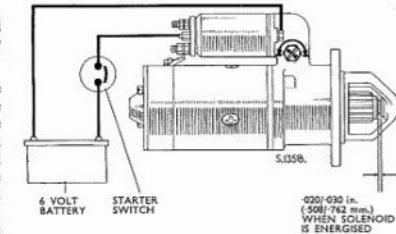

Fig. N.30. Setting the pinion movement limit (M45G type starter motor)
unit by way of a switch to a 6 volt battery (see Fig. N.30). Connect the other terminal of the battery to one of the solenoid fixing bolts and then close the switch (this throws the drive assembly forward into the engaged position). With the drive assembly in this position measure the distance between the pinion and the washer on the armature shaft extension. Make this measurement with the pinion
- (b) Ensure that the eccentric pivot pin securing nut is slack and turn the pin until the correct setting is obtained. It will be noted that the arc of adjustment is 180° and the head of the arrow marked on the pivot pin (see Fig. N.30) should be set only between the arrow heads on the drive end bracket casting. After setting, tighten the securing nut to retain the pin in position.